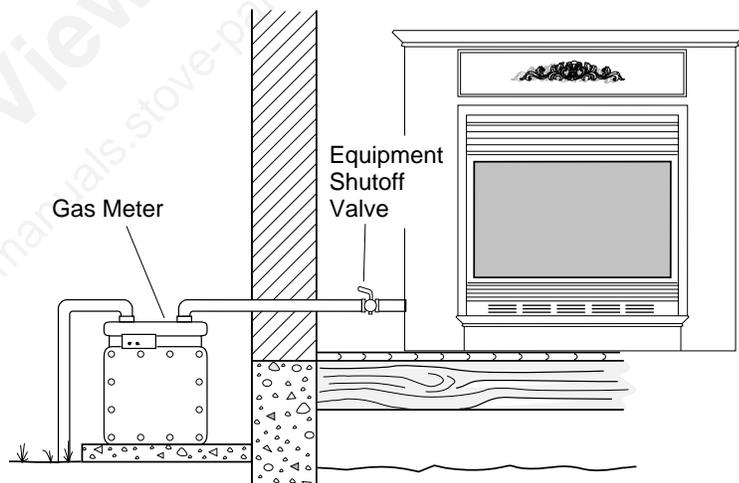

Figure 27 - Checking Gas Joints
3. Check all joints from gas meter to equipment shutoff valve (see Figure 27). Apply noncorrosive leak detection fluid to gas joints. Bubbles forming show a leak.
4. Check all joints from equipment shutoff valve to thermostat gas valve (see Figure 27). Apply noncorrosive leak detection fluid to gas joints. Bubbles forming show a leak.